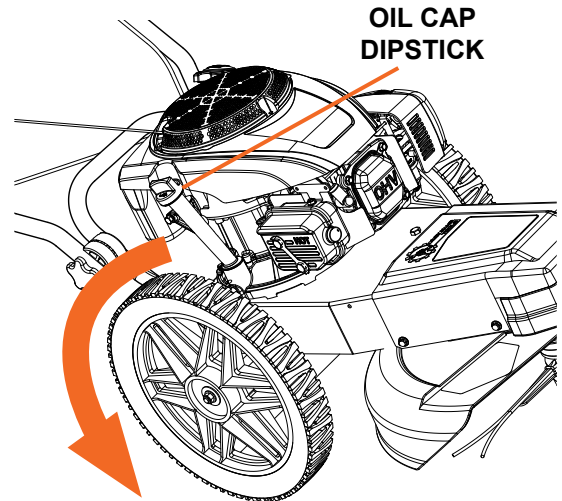

Figure 15
4. Using the handle of the trimmer/mower, tip the machine to drain the oil out through the oil filler tube into a suitable receptacle. (see Figure 15).